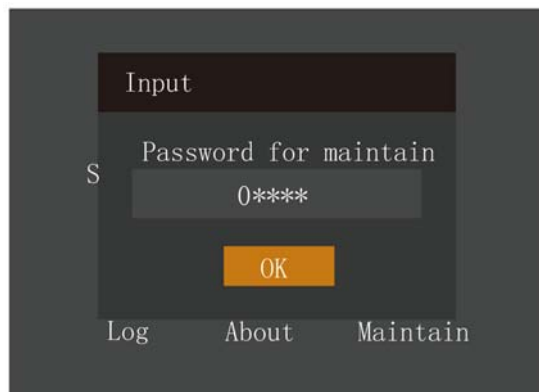

Figure 5-23 Entering the password
2. Press the  key, the interface shown in Figure 5-23 will appear.